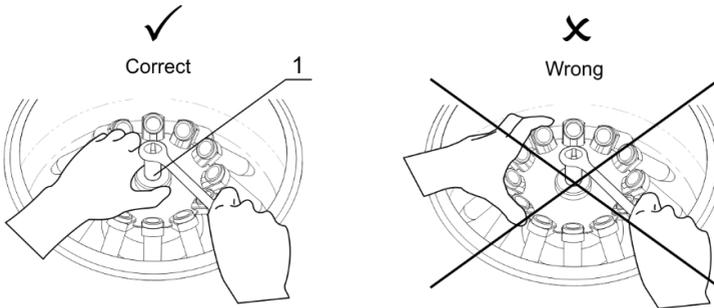

Figure 1. Rotor fixation
- Hold the rotor with one hand and, using the supplied wrench for rotor replacement (13 mm), turn the fixation nut (fig. 1/1) counter clockwise to release the rotor.
Caution! Do not hold the rotor by rings or adapters mounting when mounting and fixing it. Hold the rotor as shown on figure 1 (Correct).
Warning! Check the rotor fixation every 10 days. Tighten the fixation nut if necessary, see figure 1.